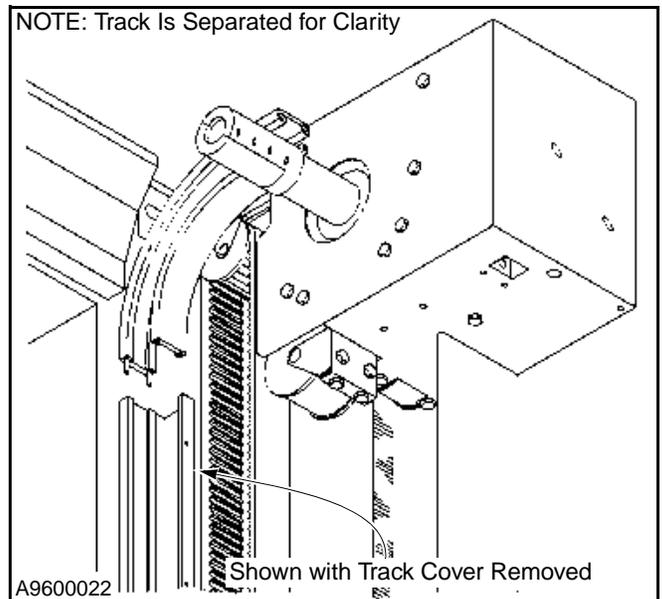

Figure 53
2. Remove the track cover. (See Figure 53.)
NOTE: Depending on the height of the door, the track cover may be a one- or two-piece unit. If it is a two-piece unit, the top half track cover should be removed as shown in Figure 53.